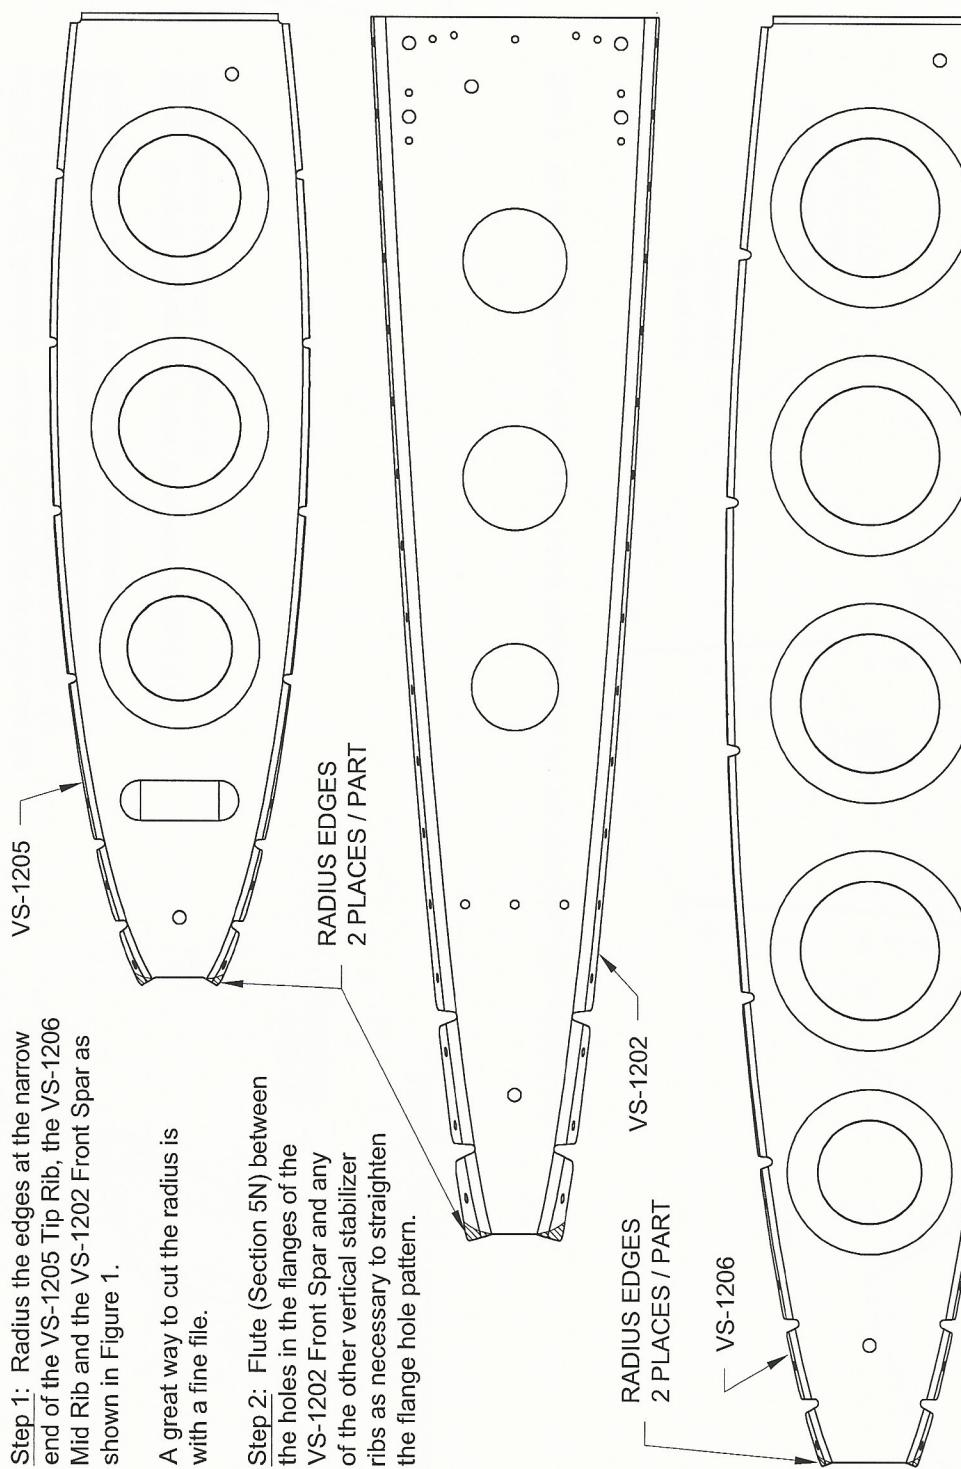

FIGURE 1:
Step 1: Radius the edges at the narrow end of the VS-1205 Mid Rib, the VS-1206 Mid Rib and the VS-1202 Front Spar as shown in Figure 1.